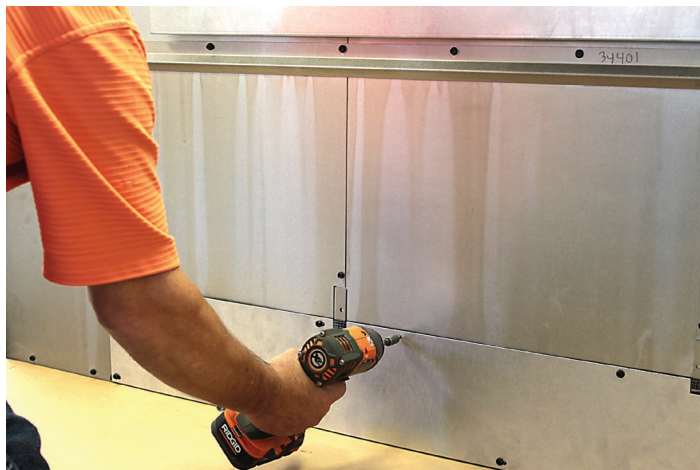

Figure 1
2. Using a 5/16-inch hex drive, remove the 11 screws holding rear blower access cover plate, then lay the access plate on the floor. **See Figure 1.**
11. Re-attach the Blower Access Panel with the 11 screws removed in step 2. **See Figure 1.**